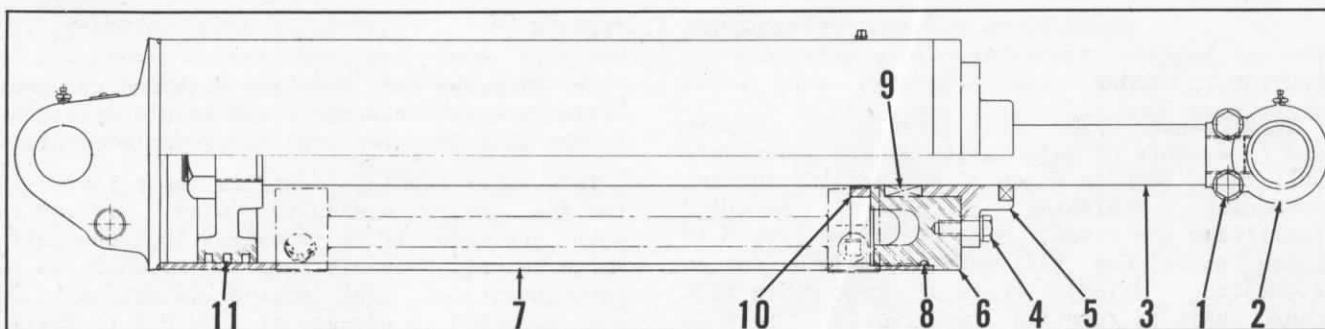

Figure 31. Cross Section of Hoist Cylinder
b. DISASSEMBLY (see Figure 31.)
(1) Remove two self locking nuts and 1/2" NF and 2-1/4" capscrews (Item 1) and unscrew clevis (Item 2) from piston rod (Item 3).
(2) Remove two 1/2" NF x 1 1/2" capscrews and lockwashers (Item 4) and remove packing gland (Item 5.)
(3) Unscrew cylinder head (Item 6) from cylinder (Item 7) and from the head, remove "O" ring (Item 8) and packing set (Item 9.)
(4) Withdraw piston and rod assembly (Item 3) from cylinder and remove spacer (Item 10) from rod. Remove piston rings (Item 11) from piston.